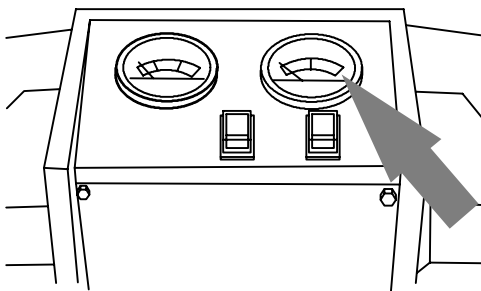

FIG. 30
- Observe brush pressure gauge. The brush pressure gauge should be operated in the GREEN zone. Operating machine with gauge in the RED zone will cause scrub brush circuit breaker to trip (Figure 30).